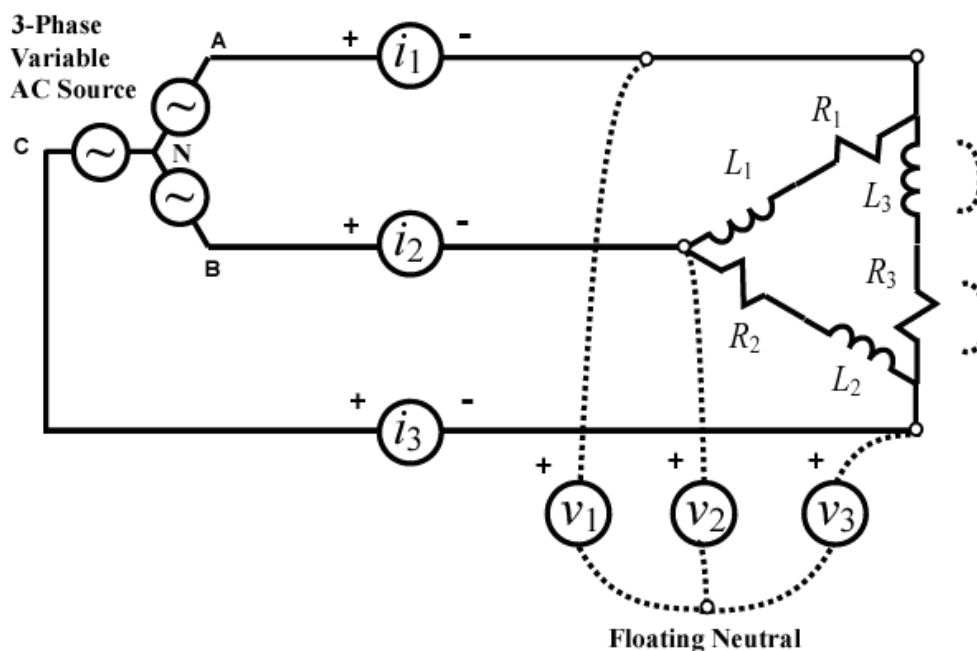

Fig. 7: Three-phase Delta-connected RL load wiring diagram.
- 1) Wire the circuit shown in Fig. 7 below using the **RL Load Box**. First, connect only the current measurement circuit and the Delta-connected RL load. Then, connect the voltmeter channels to form a floating neutral point. You will then use short red wires to bypass (short-circuit) elements in one of the phases. Ensure that your current and voltage meters have the correct relative polarity, as shown in Fig. 7. Alternatively, some of your measurements may be 180 degrees out of phase.